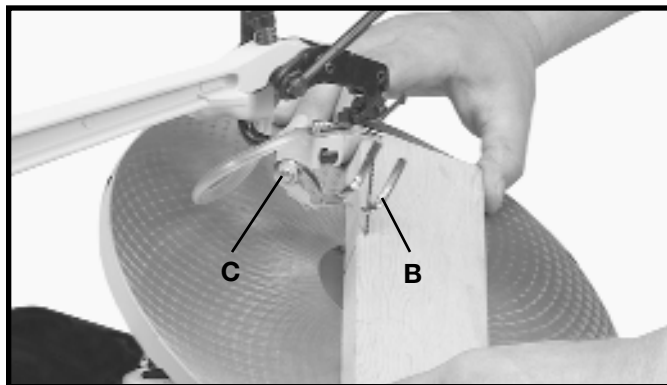

Fig. 31
When bevel cutting, the holddown (B) Fig. 31, can be adjusted to lay flat on the stock by loosening screw (C) and tilting the holddown (B) accordingly. Then tighten screw (C).